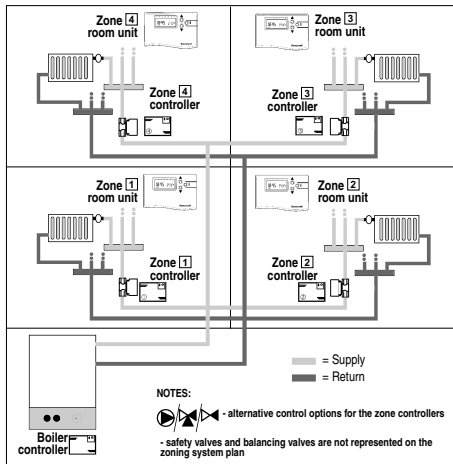

Fig.1 Multi-zone System Plan
CM67/61NG is designed to be able to control multi-zone systems where heat transfer to the individual zones is controlled by means of zone valves or pumps (see Fig. 1).
NOTE: It is important not to mismatch the pairs from the system pack boxes as they are already pre-bound. Keeping them in pairs will speed up system set-up. The HC60NG from the system packs work as zone controllers (controlling the zone valves or zone pumps), the HC60NG delivered separately will work as the boiler controller (see Fig.1)
- Install and wire up all the zone controllers following the installation guidelines, zoning system plan (see Fig.1) and wiring diagrams.